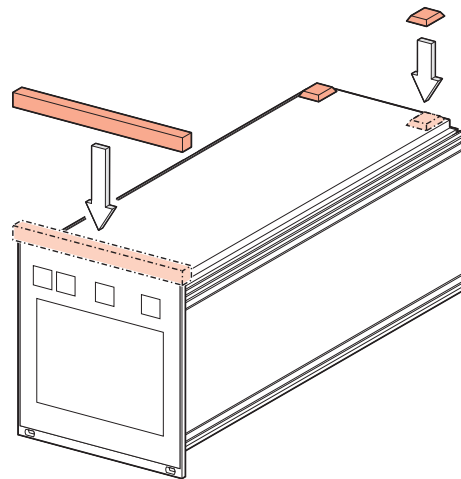

Fig. 3-1 Using the product as a desk-top unit
- 1 Turn the Vacuum Gauge Controller upside down as shown in Fig. 3-1, 10